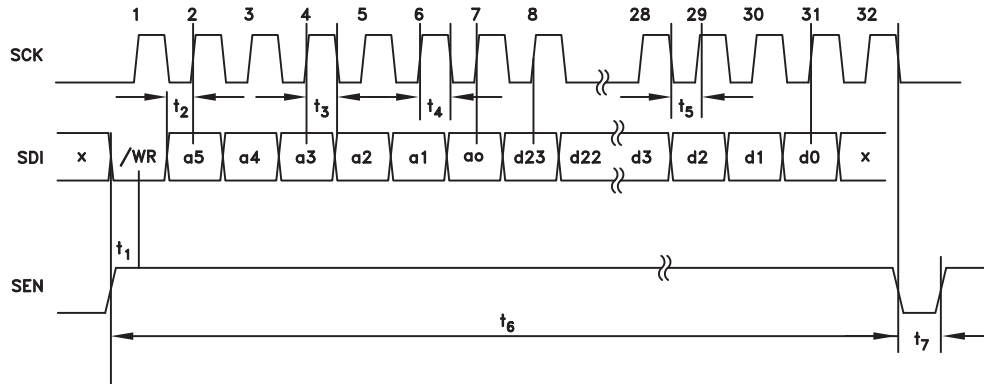

Figure 15. Serial Port Timing Diagram - Write Serial Port WRITE Operation
A typical WRITE cycle is shown in Figure 15.
- a. The Master (host) asserts both SEN (Serial Port Enable) and SDI to indicate a READ cycle, followed by a rising edge SCK. Note: The Lock Detect function is multiplexed onto the LD\_SDO pin. It is suggested that lock detect (LD) only be considered valid when SEN is low. In fact LD will not toggle until the first active data bit toggles on LD\_SDO, and will be restored immediately after the trailing edge of the LSB of serial data out as shown in Figure 15.
- b. The slave (synthesizer) reads SDI on the 1st rising edge of SCK after SEN. SDI high initiates the READ cycle (RD).